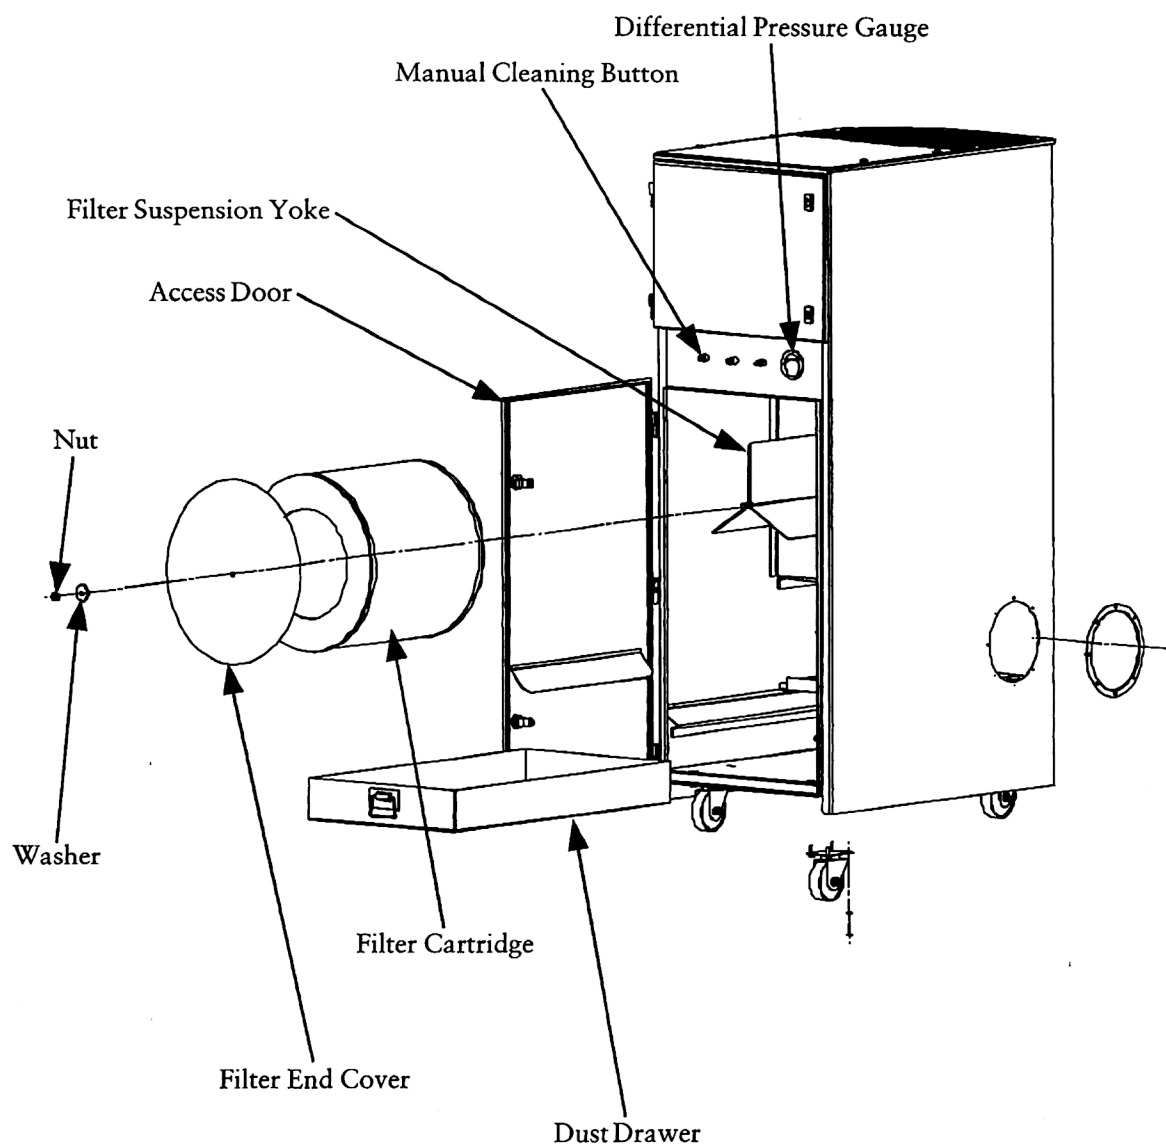

Figure 3
6.1 Filter Cartridges (See Figure 3 Filter Cartridge Replacement)
4. Filter cartridges plugged with particulate.	4a. Remove and replace filter cartridges (see Figure 3 Filter Cartridge Replacement and Section 6.1 Filter Cartridges located in this manual, and Replacement Parts List).